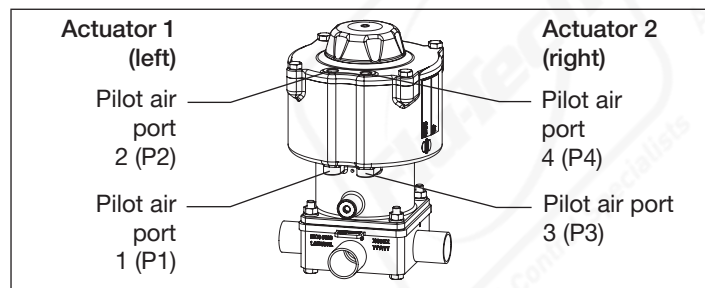

Fig. 19: Pneumatic connection
3) Actuator assignment see “Fig. 19”.
4) Actuator assignment see "Fig. 19".